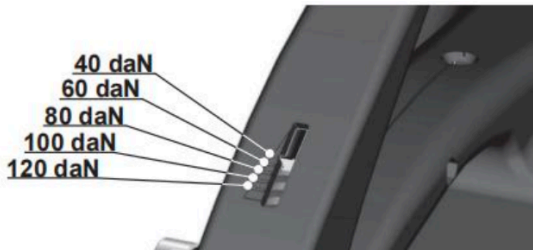

FIG. 4
- **FIG. 4** close lever **1** until the arms are parallel and the electrode tips coincide; tighten it to lock the lever in a suitable position for adjusting the electrode force.
- regulate the force exerted by the electrodes during spot welding **FIG.3**, by adjusting the screw (**2**) fitted for this purpose using the key supplied; the value of the setting, according to the position of the indicator on the graduated scale, is shown in **FIG. 4**.